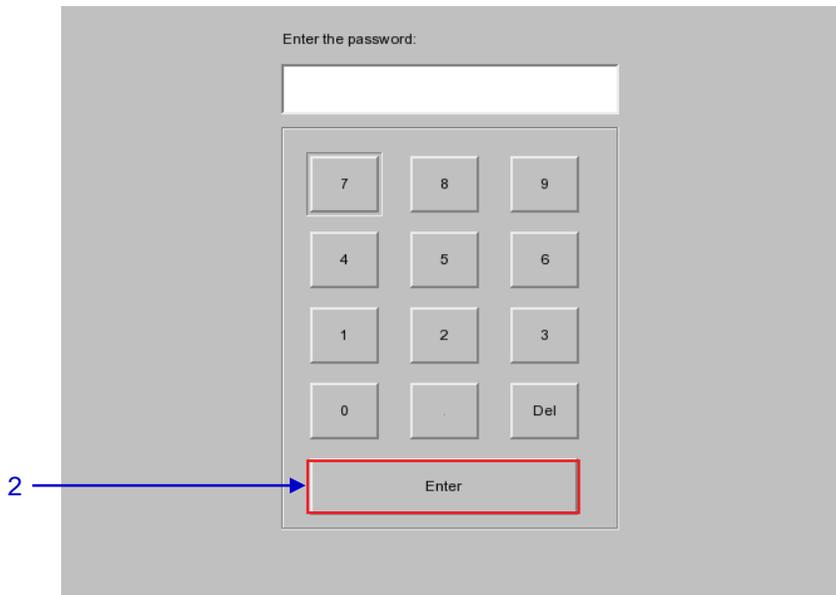

Figure 107 Diagnostics/Maintenance [Software Upgrade]
- 1 From the **Software Upgrade** button in the Admin Panel you can run any GDC issued script, once you press the button you will be prompted for the upgrade password as seen in **Figure 107**.